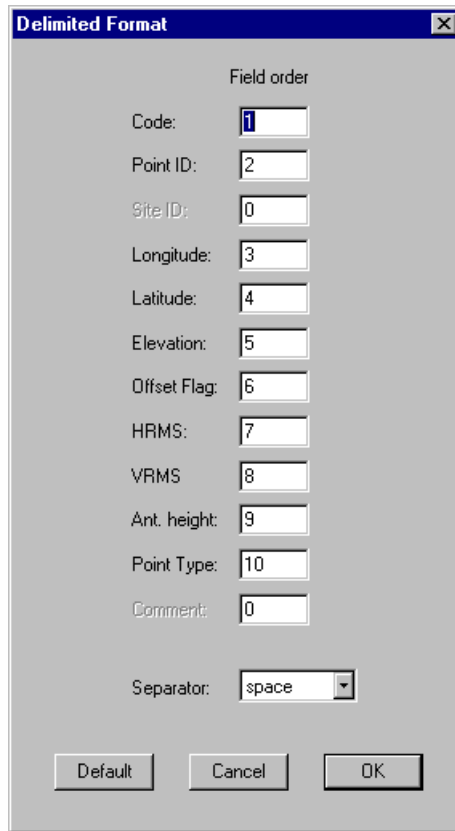

Figure 2.14. Export - Delimited Format Dialog Box
- If you selected the Delimited radio button, the Delimited Format dialog box opens (Figure 2.14).